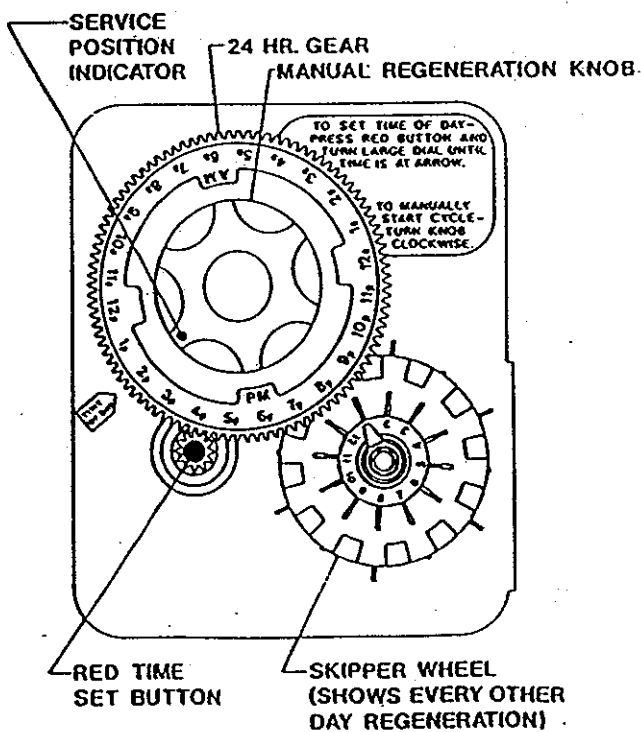

Figure 1
9. **Setting The Time of Day** - Depress the red button and then rotate the large gear until the actual time of day is next to the "time of day" pointer, then release the red button. (Refer to Figure 1.) The units are factory preset to begin backwash at approximately 1:00 a.m.
10. **Setting Backwash Frequency** - Rotate the "skipper wheel" (Refer to Figure 1.) until "1" is at the red pointer. Each number on the skipper wheel represents one day. Set the day that you want backwash to occur on by simply sliding out its tab on the skipper wheel. It is recommended to backwash filters every six (6) days. Slide out TAB number 6 and 12 for this setting.